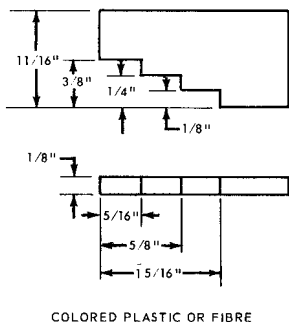
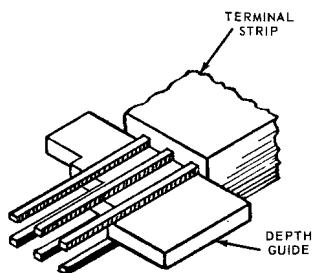

Figure 11. Depth Guide for Soldered Connections on Terminal Strips.
Figure 12. Method of Using Depth Guide for Soldered Connections on Terminal Strips.
- d. Where it is decided on an installation that it is not practical to apply solderless wire-wrapped connections on terminal strips, the soldering operation can be facilitated if the wrapping tool is not placed on the terminal as far as it will go. A depth guide as shown in Figure 11 and used as illustrated in Figure 12 will position the wrapping tool so as to leave sufficient space for three connections of three turns each. After the first horizontal row of connections has been made on a group of terminal strips, the remaining terminals can be gauged by eye rather than repositioning the guide on each succeeding row of terminals.